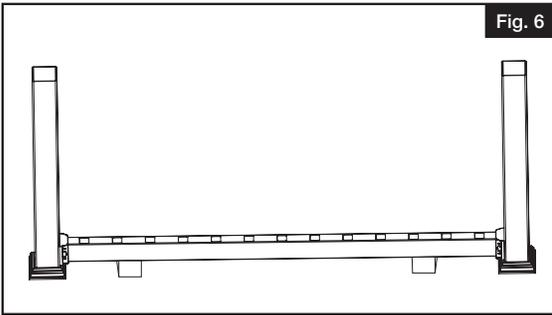

Fig. 6
- b. Slide bottom rail in between posts and rest on top of wood spacer blocks (Fig. 6).